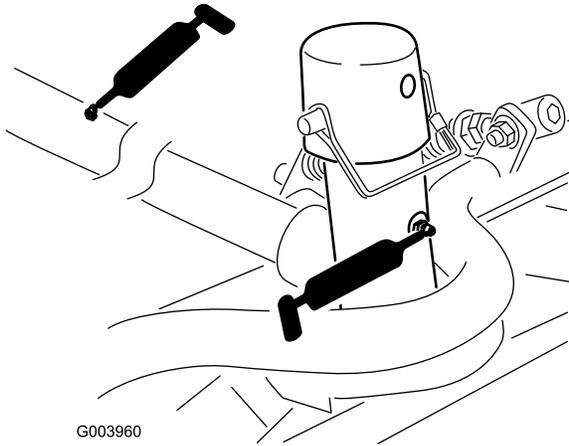

Figure 55
- Cutting unit carrier frame and pivot (2 each) (Figure 55)